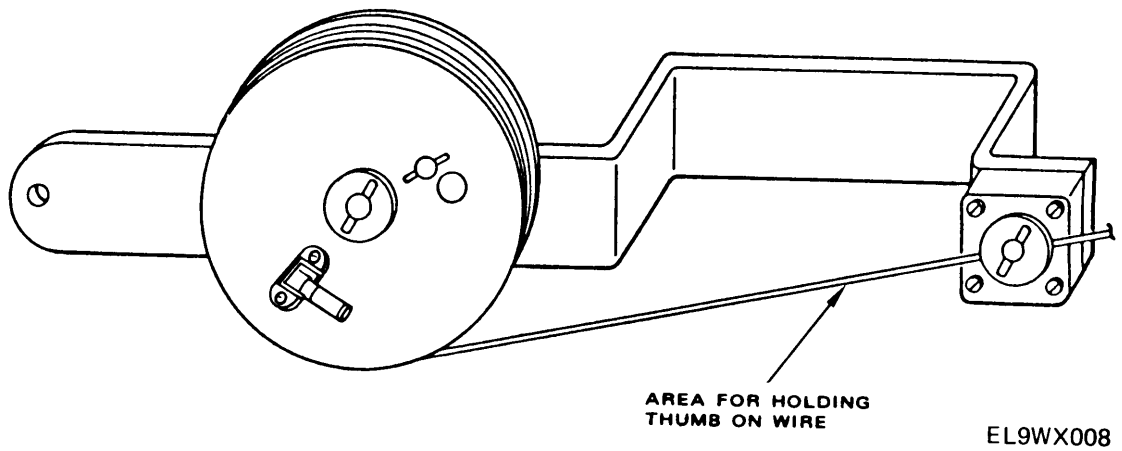

Figure 2-6. Unwinding Antenna Wire From Reel Assembly
- 2 Move away from antenna insulator center slowly, keeping the wire taut at all times. Hold thumb on wire to prevent backlash (fig. 2-6).